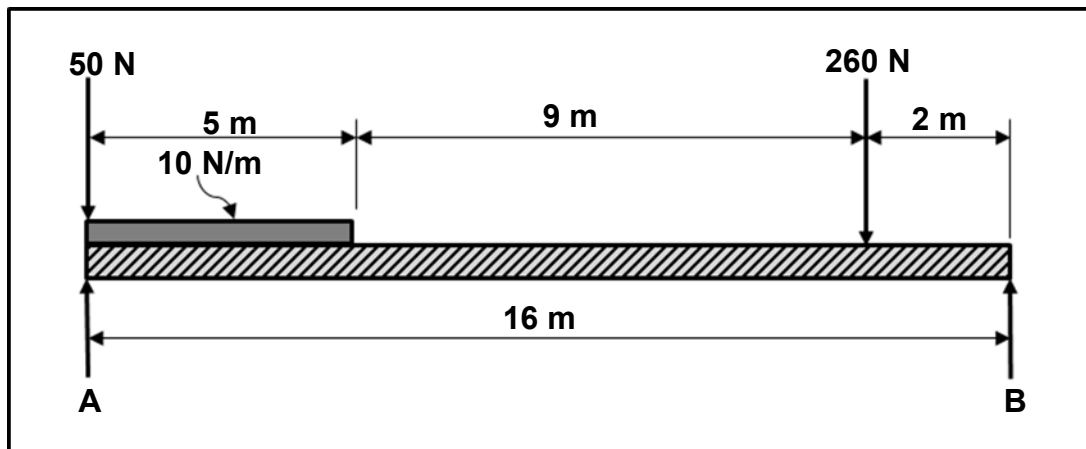

FIGURE 8.2
- 8.2 FIGURE 8.2 below shows a uniform beam supported by TWO vertical supports, **A** and **B**. TWO vertical point loads and a uniformly distributed load (UDL) are exerted onto the beam.